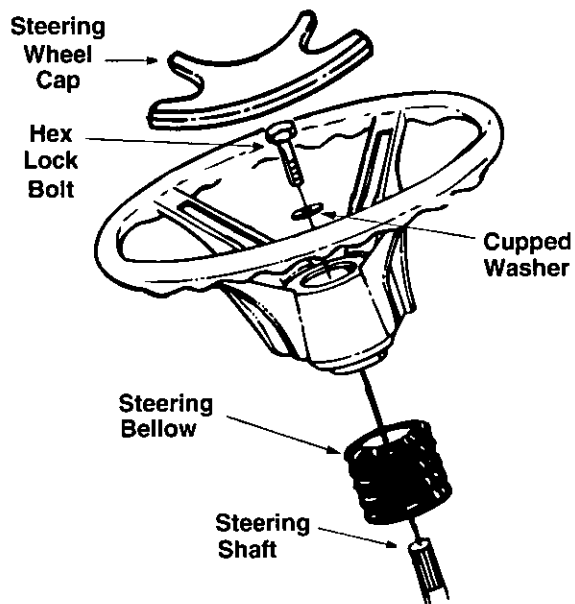

Figure 3
2. Remove the steering bellow from the lift lever on the right hand side of lawn tractor. Place steering bellow over the steering shaft extending through the dash. See Figure 3.